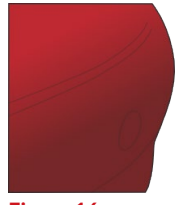

Figure 16
- › The application is completed. (FIG. 16)